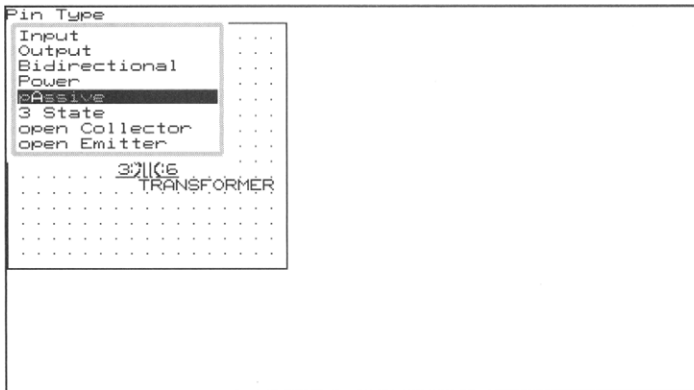

Figure 6-24 Pin Type Options
- Type** Edits the electrical type definition of a pin. The Check Electrical Rules tool uses pin type information to check for electrical interconnection rule violations as defined by a decision matrix (refer to chapter 5 page 174). A menu of pin type options appears as shown in Figure 6-24 and the current type is listed at the top of the display. Available pin types include:
The screens shown in figures 6-24 and 6-25 prompt you for the pin type and shape. Select passive type and short shape as shown in these figures. You have now completed the body and pin edits. The transformer should appear exactly as shown in Figure 6-4.